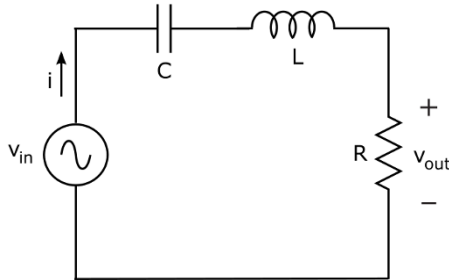

Figure 8-7: An RLC circuit has a resonant frequency, at which the maximum current flows.
Look at the RLC circuit in Figure 8-7. Now imagine what happens to the current, i , flowing through the circuit as you vary the frequency of the input signal, v_{in} . Because the capacitor blocks DC and allows more and more alternating current (AC) to flow as frequency increases, low-frequency input